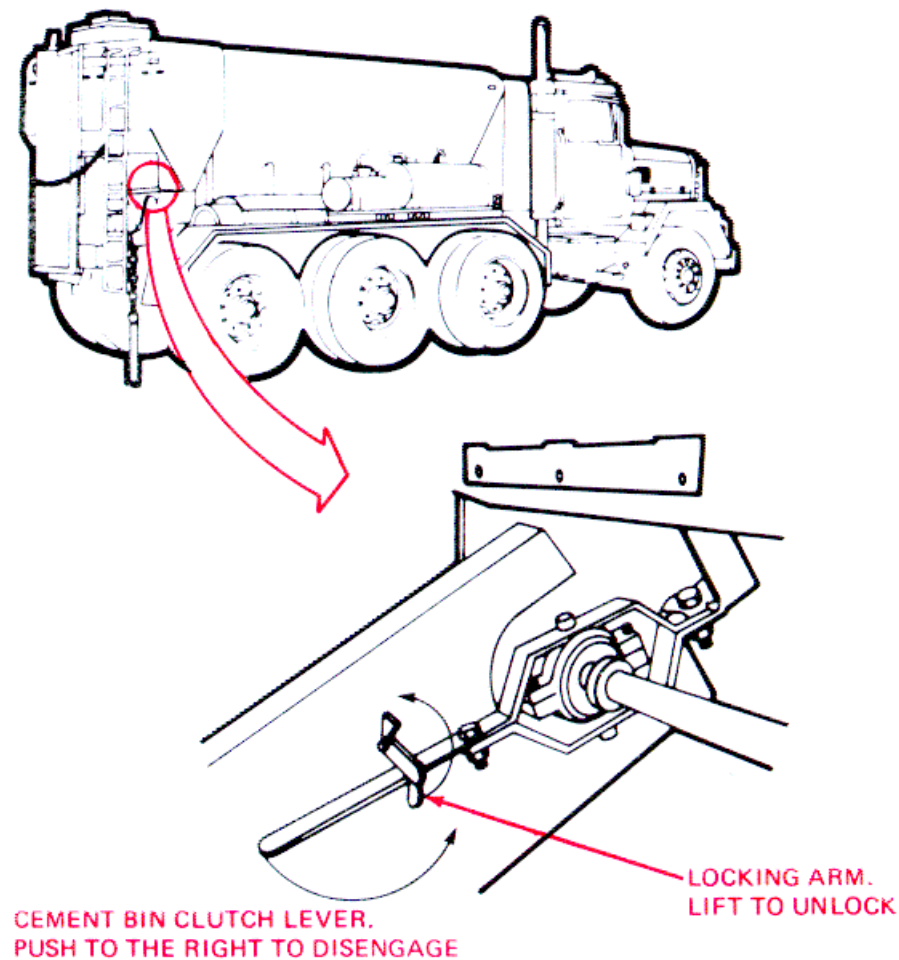

Figure 2-36. Cement Bin Clutch.
- d. Engage Cement Bin Clutch. Check that cement bin clutch is engaged (fig. 2-36).